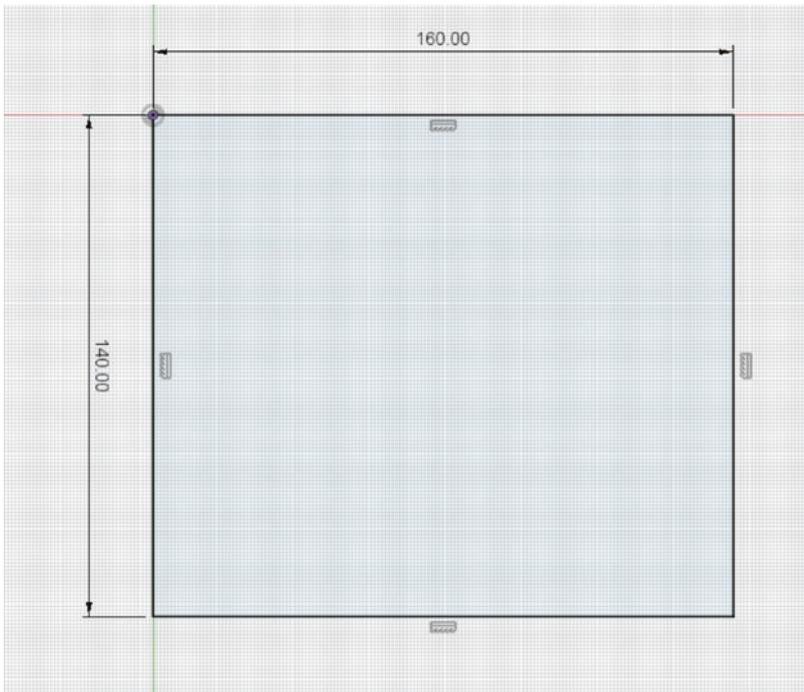

Figure 6-52. Create a rectangle
3. Start a new sketch and create a rectangle 160mm by 140mm. See Figure 6-52.